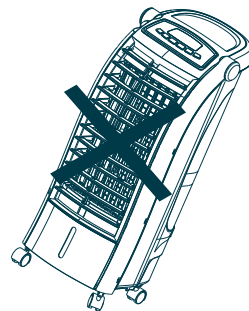

Fig.5
2. After the unit is filled with water, do not tilt or crash it when placing or moving the unit. If moving the unit is necessary, please push it slowly to avoid overflowing. Tilting the unit during operation is prohibited(See Fig.5).